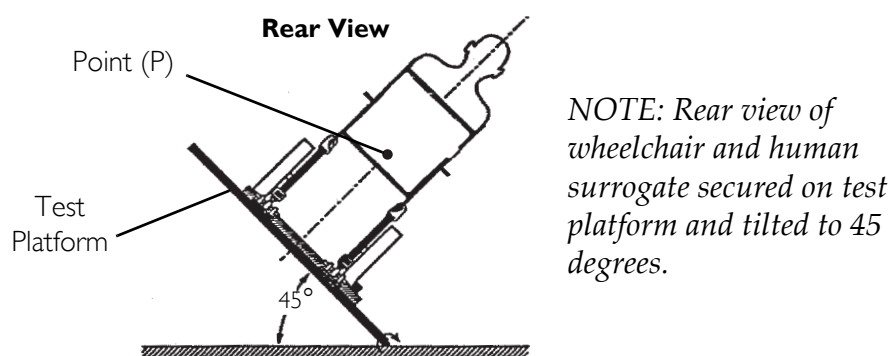

FIGURE 15.3 Vehicle-Anchored Belts
NOTE: For this procedure, refer to FIGURE 15.3.
The test for Lateral Stability Displacement for Point (P) is shown in FIGURE 15.3. The average test result for point (P) is 0.77-inches (19.6 mm).